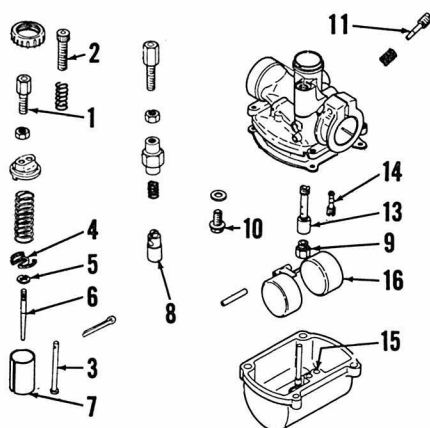

Fig. Y3-1—Exploded view of typical Mikuni carburetor.
**CARBURETOR.** A Mikuni VM carburetor is used. Idle speed is changed by turning adjuster (2—Fig. Y3-1). Idle mixture is adjusted by turning needle (11). Float setting (H—Fig. Y3-2) should be 7/8 inch (22MM) for 100cc models, 0.984 inch (25MM) for
125cc models. Refer to Fig. Y3-1 and the following specifications: